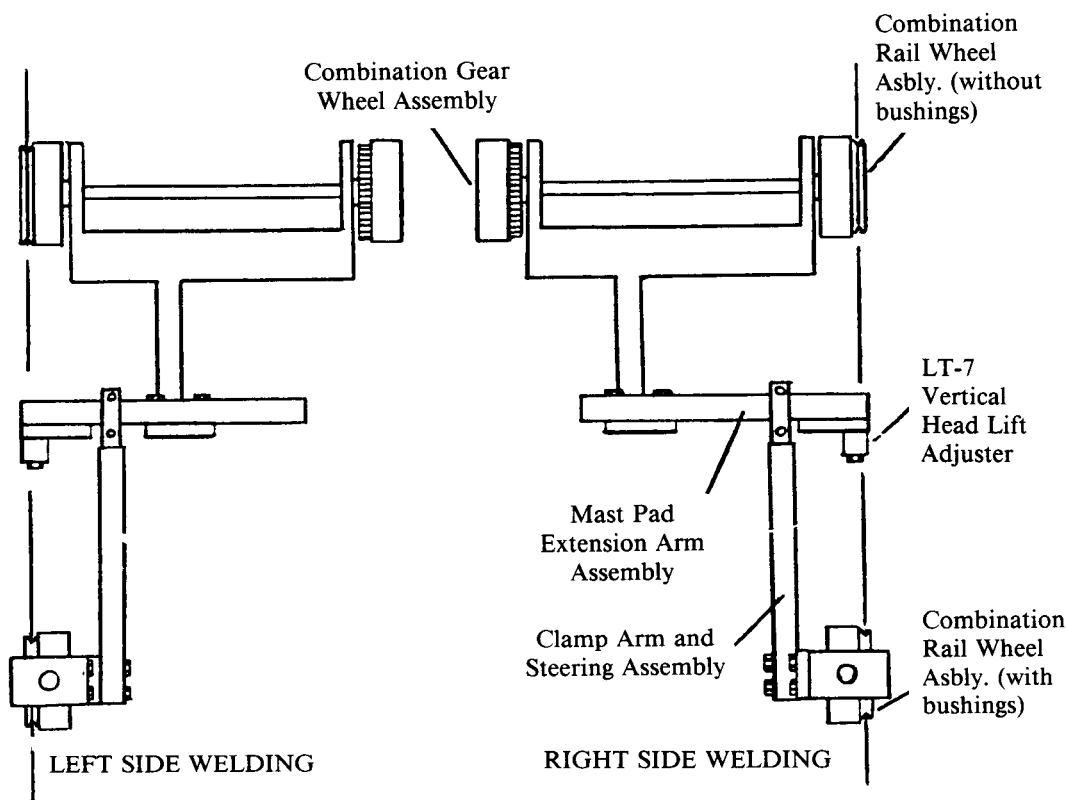

Figure 1
The K395 LT-7 is shipped set up for right side welding as per Figure 1. If left side welding is desired, or for left to right conversion, proceed per the following instructions:
**a. Rear Wheel Configuration (refer to Fig. 1)**
b. Front Frame Configuration (refer to Fig. 1)